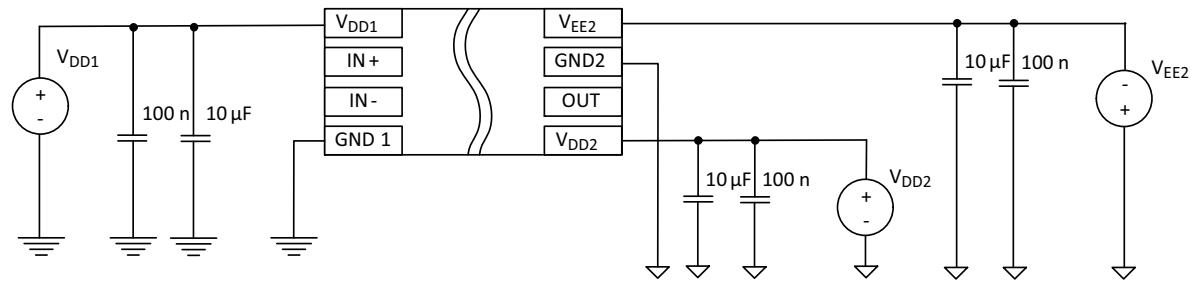

Figure 27. Bipolar Power Supply NCD57080B
- In bipolar power supply the driver is typically supplied with a positive voltage of 15 V at V_{DD2} and negative voltage -5 V at V_{EE2} (Figure 27). Negative power supply prevents a dynamic turn on through the internal IGBT input capacitance